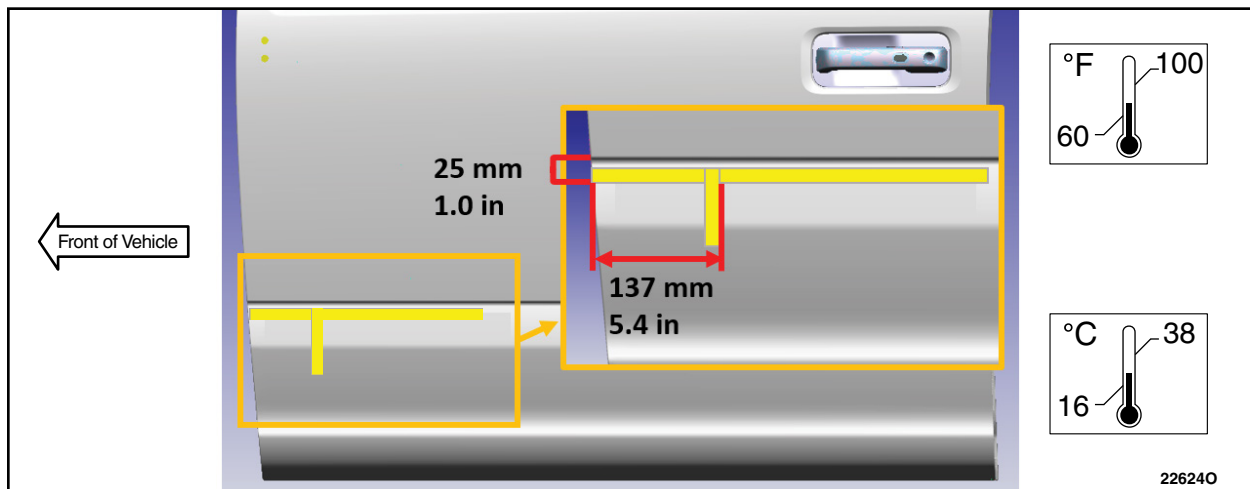

FIGURE 2
11. Measure and apply locating masking tape to the front LH door outer panel. See Figure 2.